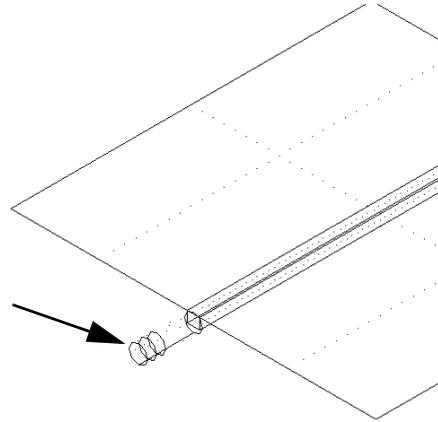

Figure 11-15 Geometry positioning
4. *Click in/on the left-most positioned circle as shown by the arrow in Figure 11-15. Notice as the cursor moves over the circles, a yellow circle appears.*